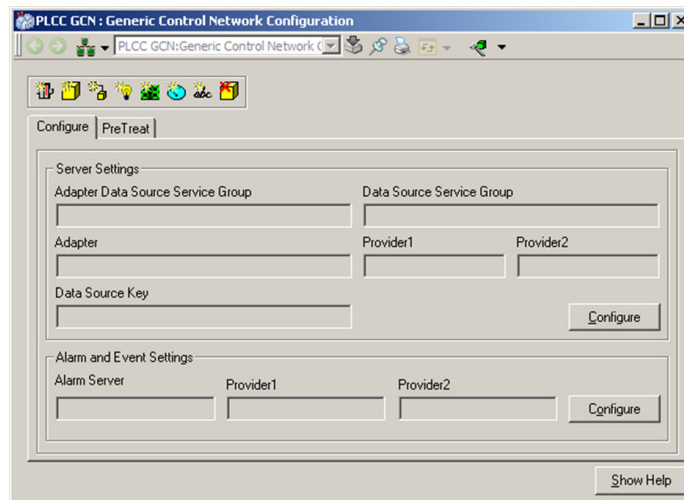

Figure 36. Generic Control Network Configuration Aspect
- Click the **Configure** tab in the Preview Area to produce the view shown in Figure 36.